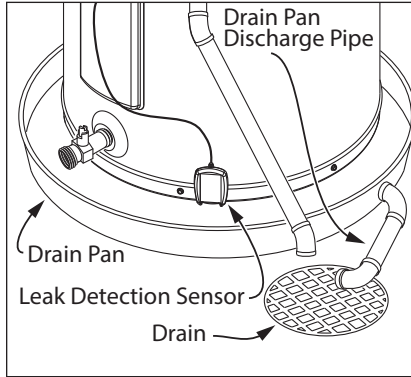

Figure 7 - A suitable drain pan piped to an adequate drain can help protect flooring from leaks and drips.
- Suitable drain pan (Figure 7 on page 8)
- Install a suitable drain pan (available at Lowe’s®) under the water heater (Figure 7) to catch condensation or leaks in the piping connections or tank. Most codes require, and we recommend, installing the water heater in a drain pan that is piped to an adequate drain. The drain pan must be at least 2” (50 mm) wider than the diameter of the water heater. Install the drain pan so the water level would be limited to a maximum depth of 1-3/4” (45 mm).
- In a suitable drain pan piped to an adequate floor drain or external to the building (Figure 7).